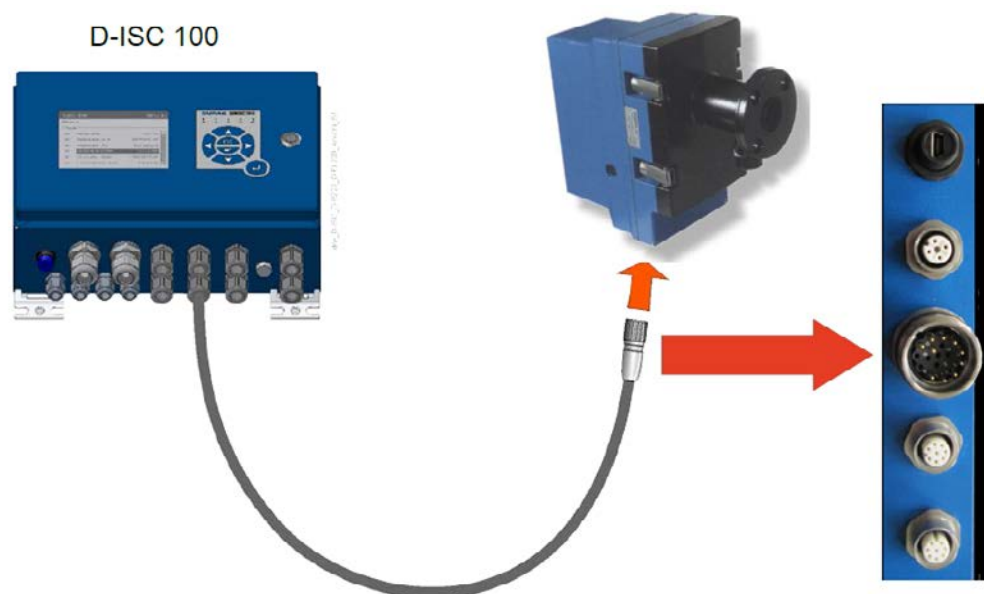

Fig. 5.29: Connecting the D-R 290 as an individual sensor directly to the D-ISC 100 control unit
- Directly supplied by the D-ISC 100 control unit at the sensor level (Fig. 5.29). In this case the D-R 290 is supplied with power directly by the D-ISC 100, and no D-TB 100 is required. The maximum permissible length of this connecting cable is 12 m.